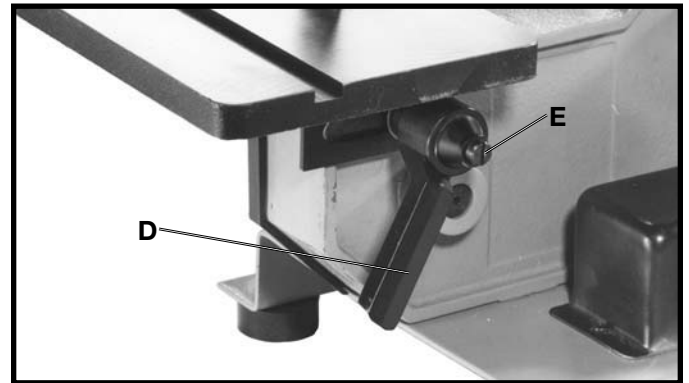

Fig. 18
3. Place handle (D) Fig. 18, onto locking stud and fasten with screw (E) and spring.
4. **NOTE:** The locking handle (D) Fig. 18, is spring-loaded and can be repositioned by pulling out the handle and repositioning it on the serrated stud located underneath the handle.